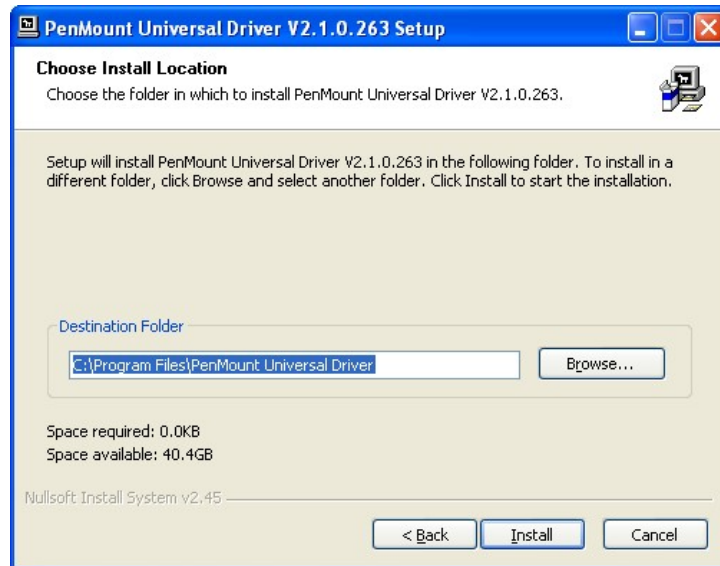

Figure 6-26: Choose Install Location
Step 8: Browse for an install location or use the one suggested then click **INSTALL** to continue (Figure 6-26).